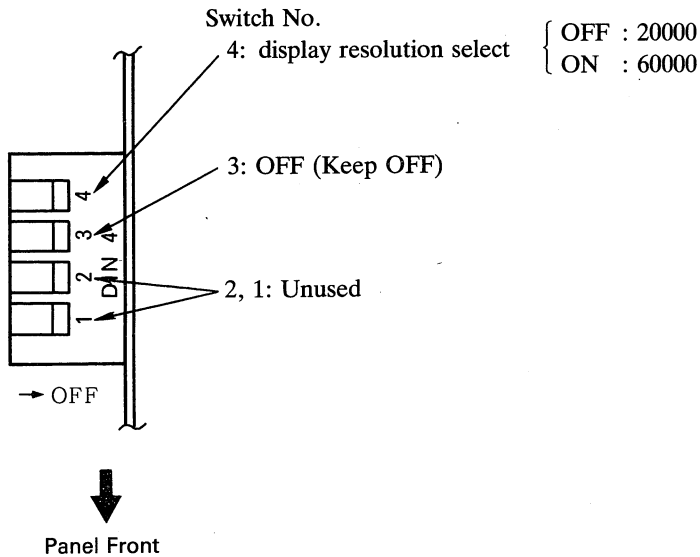

Figure 2-26.
- (4) Referring to Figure 2-26, set CPU ASS'Y DIP switches as desired. Do not tamper with other parts to avoid a malfunction.